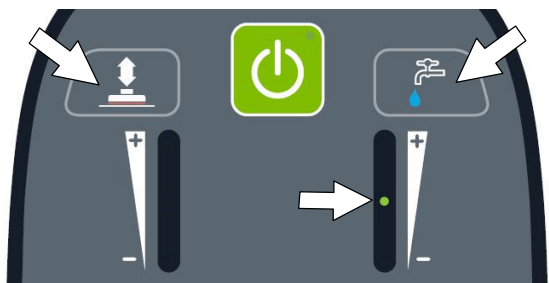

FIG. 156
6. To save the desired maximum limits, press and hold the brush pressure button and the solution flow button together until the LED turns solid, approximately 3 seconds (Figure 156).